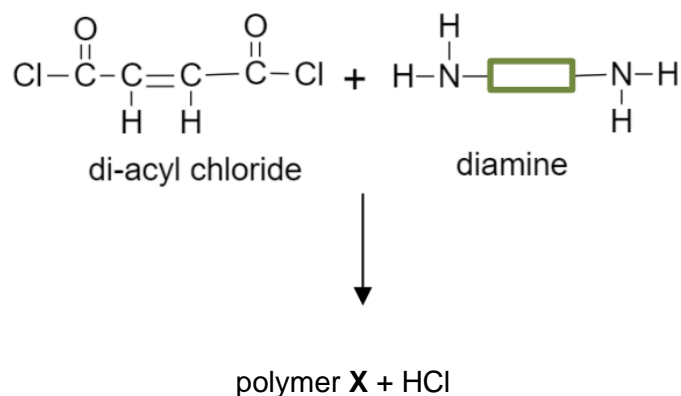

Fig. 10.1
B10 Fig. 10.1 shows the reaction between a di-acyl chloride and a diamine to form a polymer which is used commonly in making clothing. Acyl chlorides react with amines in a similar manner as carboxylic acids.
- (a) (i) Describe a chemical test to distinguish between the di-acyl chloride and diamine in Fig. 10.1, including all expected observations.
- (ii) State the type of polymerisation shown in Fig. 10.1.
- (b) (i)** The di-acyl chloride in Fig. 10.1 also undergoes another type of polymerisation that the diamine in Fig. 10.1 cannot undergo. What is this polymerisation? Explain why it can undergo this polymerisation but the diamine cannot.